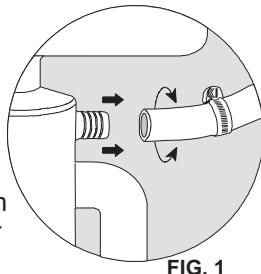

FIG. 1
2. Remove dishwasher drain hose from disposal by unscrewing hose clamp, or expanding spring clamp with pliers. Move clamp away from disposal nipple, then twist hose back and forth while pulling away from disposal to separate. (See Fig. 1)